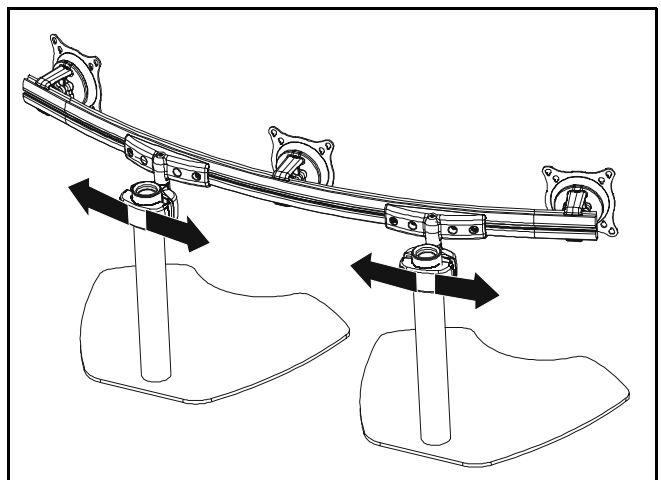
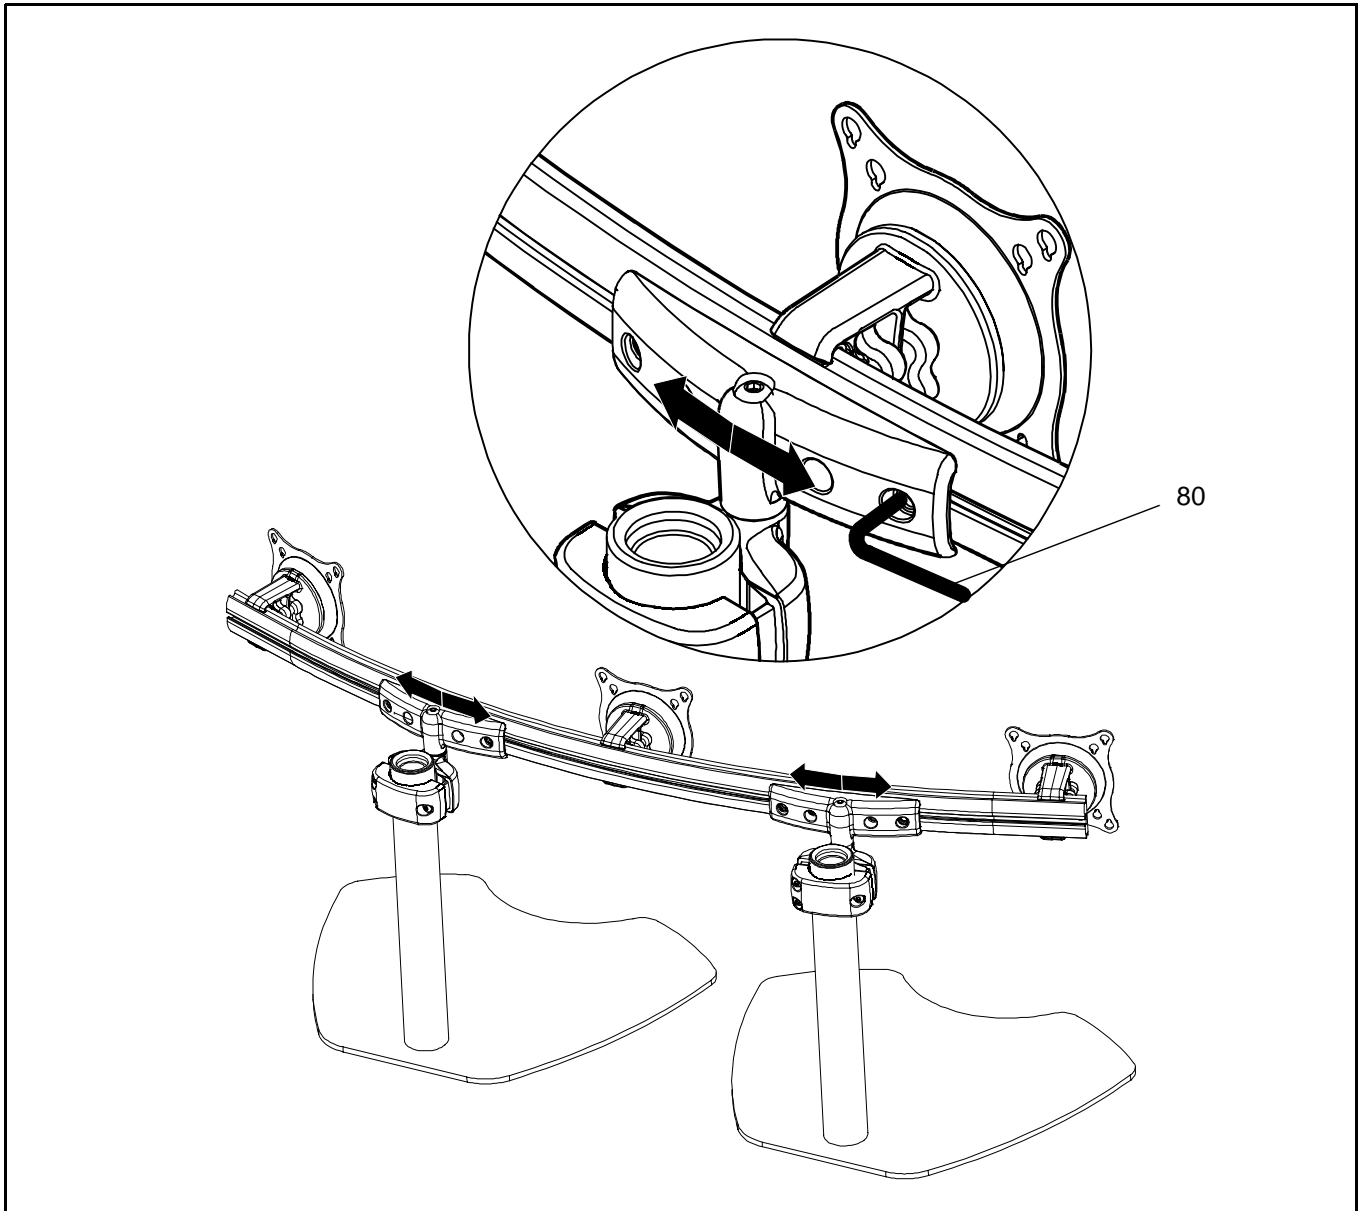

Figure 7: Adjust Base Position
Figure 8: Position and Secure Base Assemblies to Array
12. Slide existing and new base assemblies left or right and position bases so that they are evenly spaced across array. (see Figure 7) and (see Figure 8)
13. Tighten eight button head cap screws to secure existing and new base assemblies to array rail using 5/32" hex wrench (80). (see Figure 8)